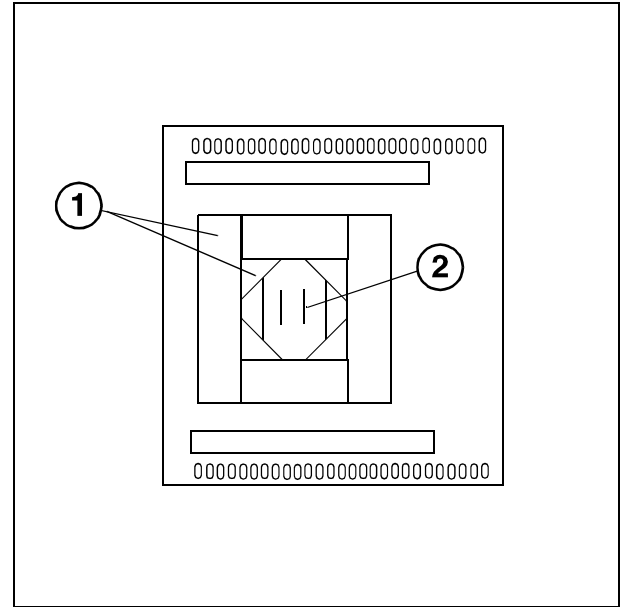

Fig. 6
- Remove the lead leaves (1/Fig. 6).
- Remove the leaves close to the focus at the bottom of the collimator (2/Fig. 6); **lead**.